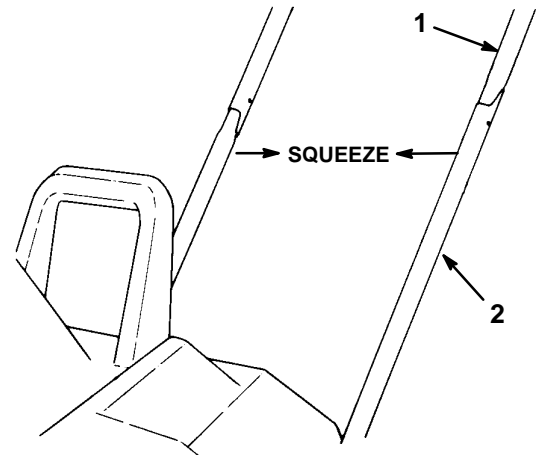

Figure 1
2. Carefully insert right side of upper tubing **over** end of lower right side tubing (Fig. 1).
3. Carefully insert left side of upper tubing **into** end of lower left side tubing (Fig. 1).
4. Squeeze upper tubes together as shown in Figure 1. Wiggle upper tubes down until mounting holes in upper and lower tubing are aligned (Fig. 1).